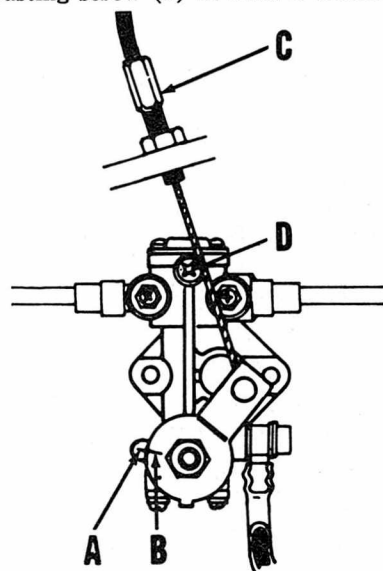

Fig. S11-3—With throttle wide open, marks (A&B) will align on correctly adjusted oil pump. Loosen bleeder screw (D) to remove air from system.
Oil pump adjustment may be checked after removing inspection cover on right rear of engine. Hold hand throttle full on and observe that marks (A&B—Fig. S11-3) are aligned. If adjustment is incorrect, turn cable adjuster (C) until marks align with throttle wide open.